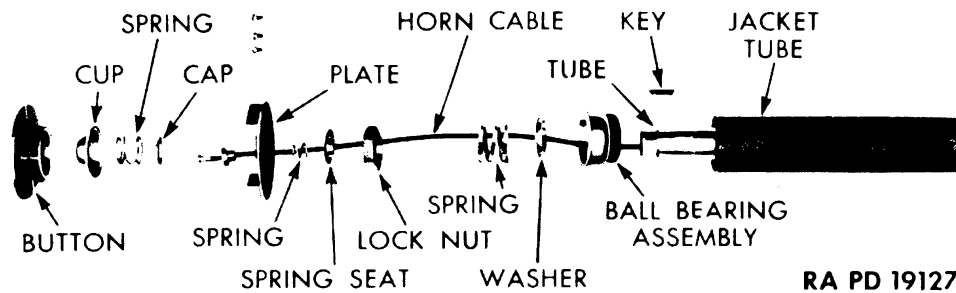

Figure 218 — Steering Gear, Upper Section — Disassembled
79. INSPECTION OF PARTS (figs. 218 to 220).